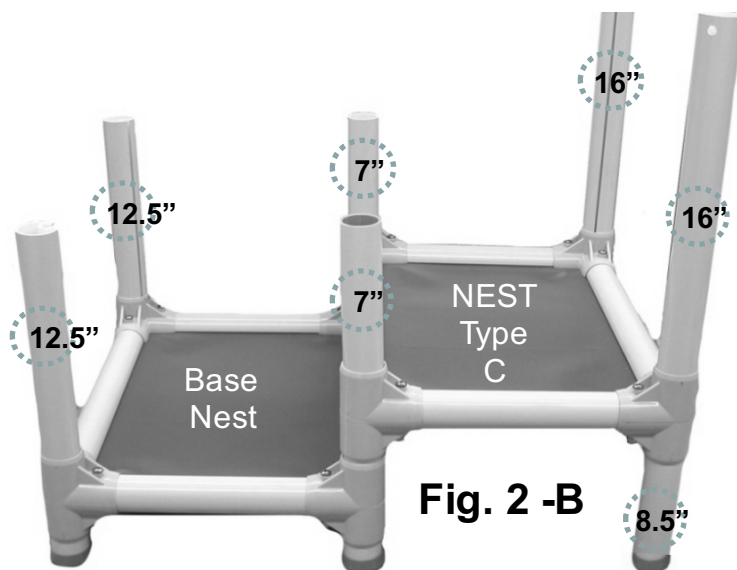

Fig. 2 -B
Insert a leg cap into (2) of the 8.5" legs and insert into the bottom corner of a Nest Type C. Place this nest over the Base Nest inserting the two bottom corner openings onto the 2 Base Nest upright 3.25" legs. Using a level, tap gently with a rubber mallet to make sure the nest is secure and level. Insert (2) 7" legs into the center openings. Insert (2) 16" legs into the outside corner openings. See Fig 2 –B